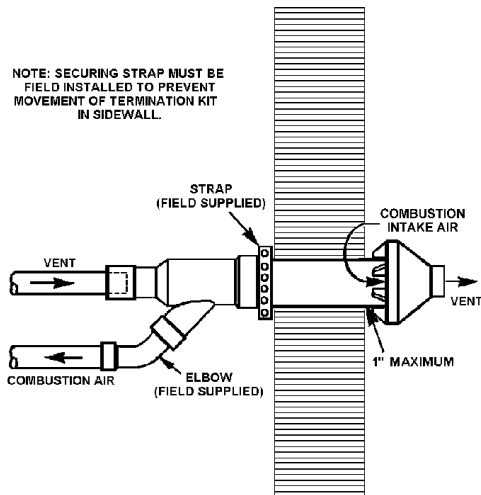

FIGURE 29.
7. Cement heater combustion-air and vent pipes to concentric vent termination assembly. See Figure 29 for proper pipe attachment.